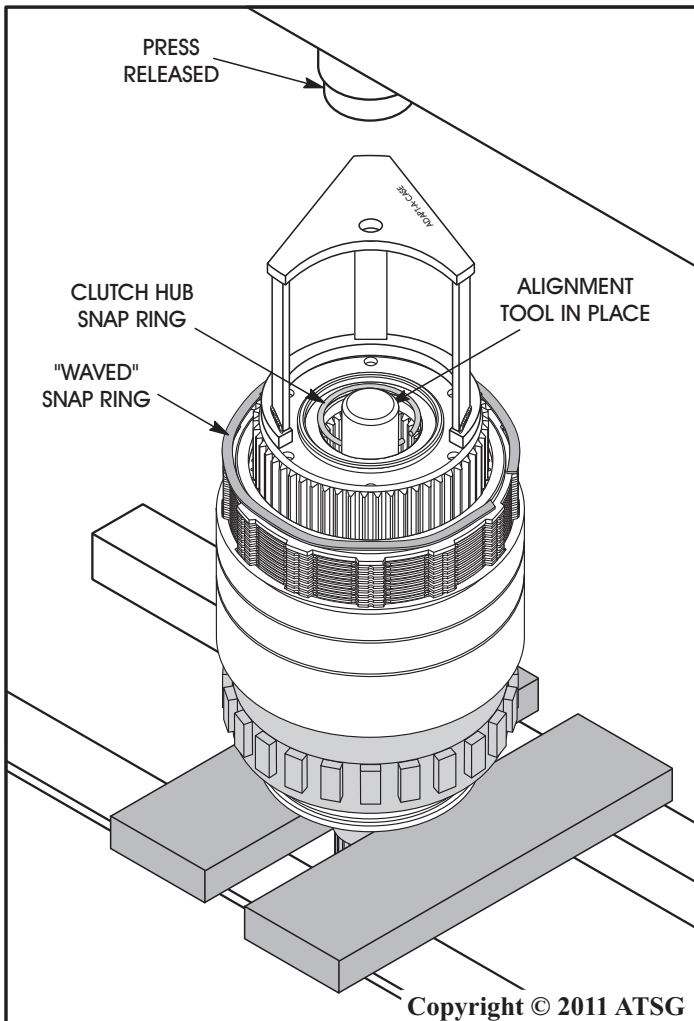

Figure 186
31. Mount the overdrive geartrain in press using the same press plates and adapters that you used in disassembly, as shown in Figure 186.
32. Ensure that spline alignment tool is still in place, as shown in Figure 186.